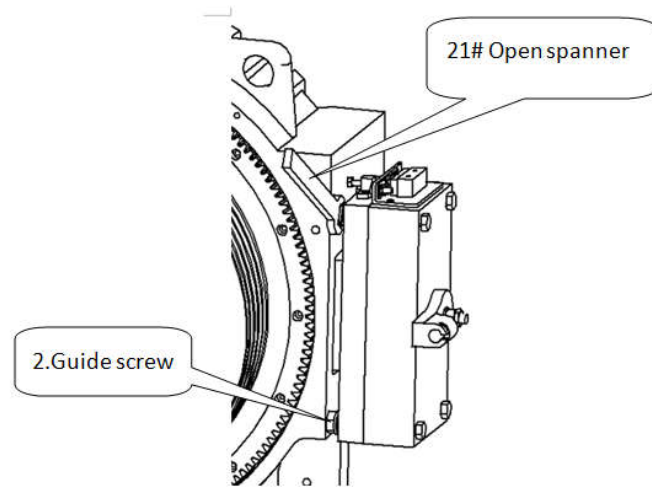

Fig. 1.5
- d) Rotate 4 guide screws clockwise head to the center of base and make it depend on the base installing surface tightly. Refer to fig.1.5.
- b) Rotate 4 guide screws clockwise head to the center of base and make it depend on the base installing surface tightly. Refer to fig. 1.5.
- a) Check if the guide screw depend on the machine base surface tightly. If not, please rotate the guide screw clockwise by 21# open spanner and make it depend on the base surface tightly. Refer to fig.1.5.
- b) If the guide screw has already depend on the machine base surface tightly, please loosen the four installing bolts counterclockwise, then rotate the guide screw clockwise and make it depend on the machine base surface tightly, at last, lock the four installing bolts with torque spanner. Refer to fig.1.5.